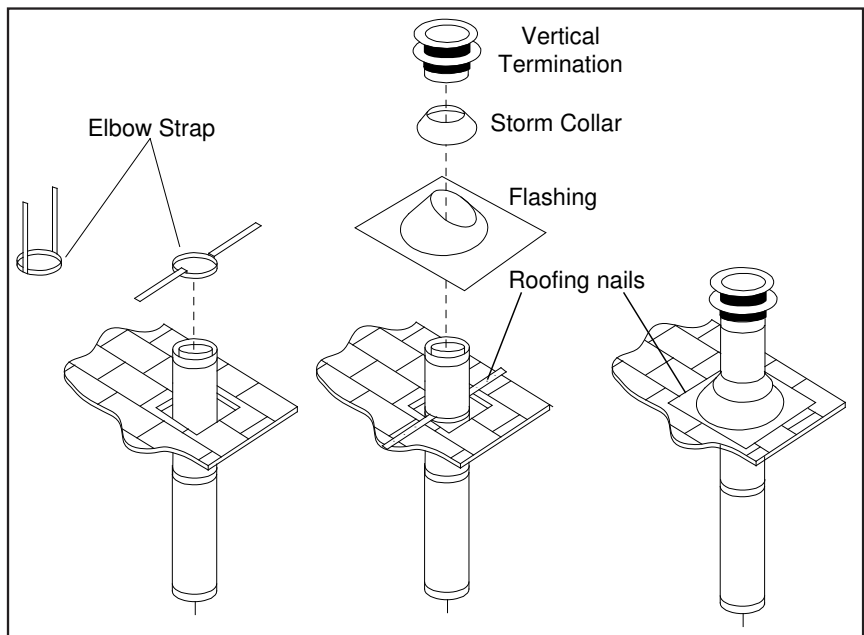

Figure 45: Vertical Vent Termination
- Step 3.** To install the Round Support Box/Wall Thimble in a flat ceiling, cut a **10” (25.4 cm)** square hole in the ceiling, centered in the hole drilled in Step 2. Frame the hole as shown in Figure 45.
- Step 6.** Once the pipe sections have been joined, and run up through the hole in the roof, slip an elbow strap over the exposed sections, bend the support straps outwards, and push the elbow strap down to the roof level, as shown in Figure 45. Tighten the clamp around the pipe section. Use a level to make sure the pipe is truly vertical. With roofing nails, secure the support straps to the roof. Seal the nails holes heads with non-hardening mastic. Trim the excess length of the support straps that extend out beyond the edge of the flashing.
- Step 9.** Slip the storm collar over the pipe, and push it down to the top of the roof flashing as shown in Figure 45. Use the non-hardening sealant around the joint between the pipe and the storm collar.